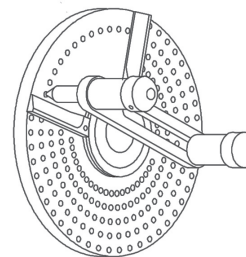

Fig. 2B
2. Rotate the plunger assembly clockwise 5 full rotations and 10/34 of a rotation by placing the plunger assembly against the sector arms as in Figure 2B.